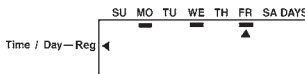

fig.17
6. Press **↑** to confirm, and the chosen day will be underlined. The regeneration will take place on the underlined days (fig. 17).